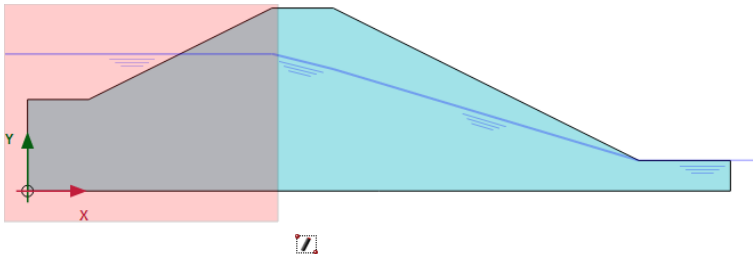

Figure 9.7 The time dependent boundaries in the model
- Select the hydraulic boundaries as shown in Figure 9.7.